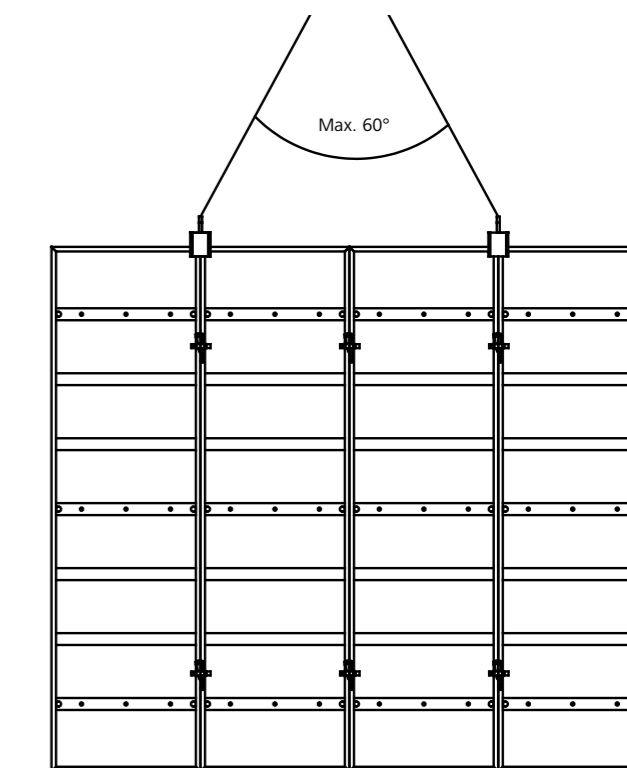

Fig. 2
Always use two crane hooks attached symmetrically relative to the centre of gravity in order to ensure that the load cannot shift (Figures 2 to 5).
- Always use two crane hooks symmetrically when crane ganging (Fig. 2)
When moving large-area panels units, every crane hook must be attached at a panel joint to prevent it shifting (Figures 2 and 5). Attach guide ropes to the formwork units in order to guide them to the next place of deployment. The capacity of the crane sling provided at the construction site must be sufficient to lift the loads that occur.